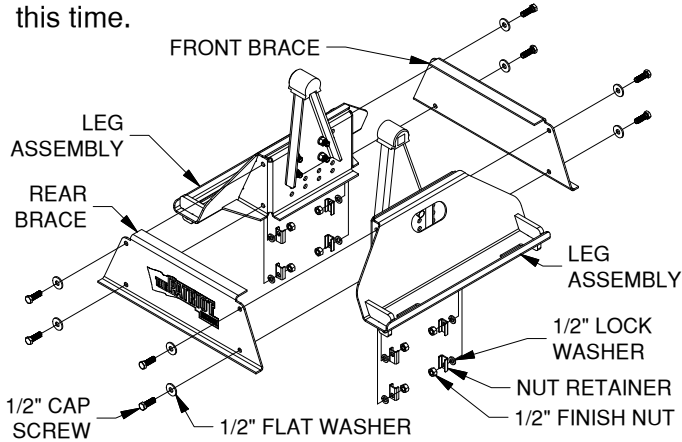

Figure A4: Base assembly.
4. Locate the front and rear brace pieces, nut retainers and the remaining 1/2" cap screws, lock washers, flat washers, & finish nuts. Attach The Front and Rear Brace to the two leg assemblies by passing four 1/2" cap screws with flat washers through each brace and base leg. Inside base leg, place lock washers, nut retainers, & finish nut on end of cap screws. see Figure A4. Do not fully tighten the 1/2" cap screws at this time.